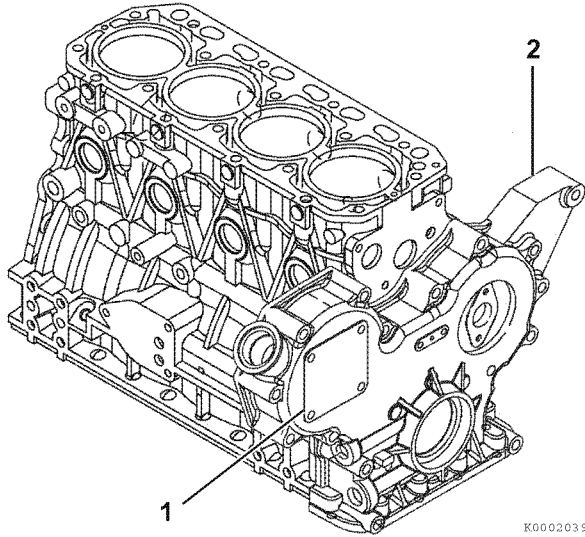

Figure 7-13
- Remove the fuel injection pump drive gear cover (1, **Figure 7-13**) from the gear case cover (2, **Figure 7-13**).